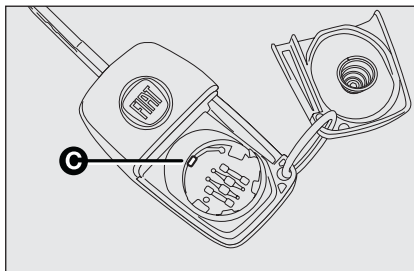

fig. 8
- new battery shall be fitted under catch **C**-fig. 8; then refit the lid and press it down until hearing the locking click.